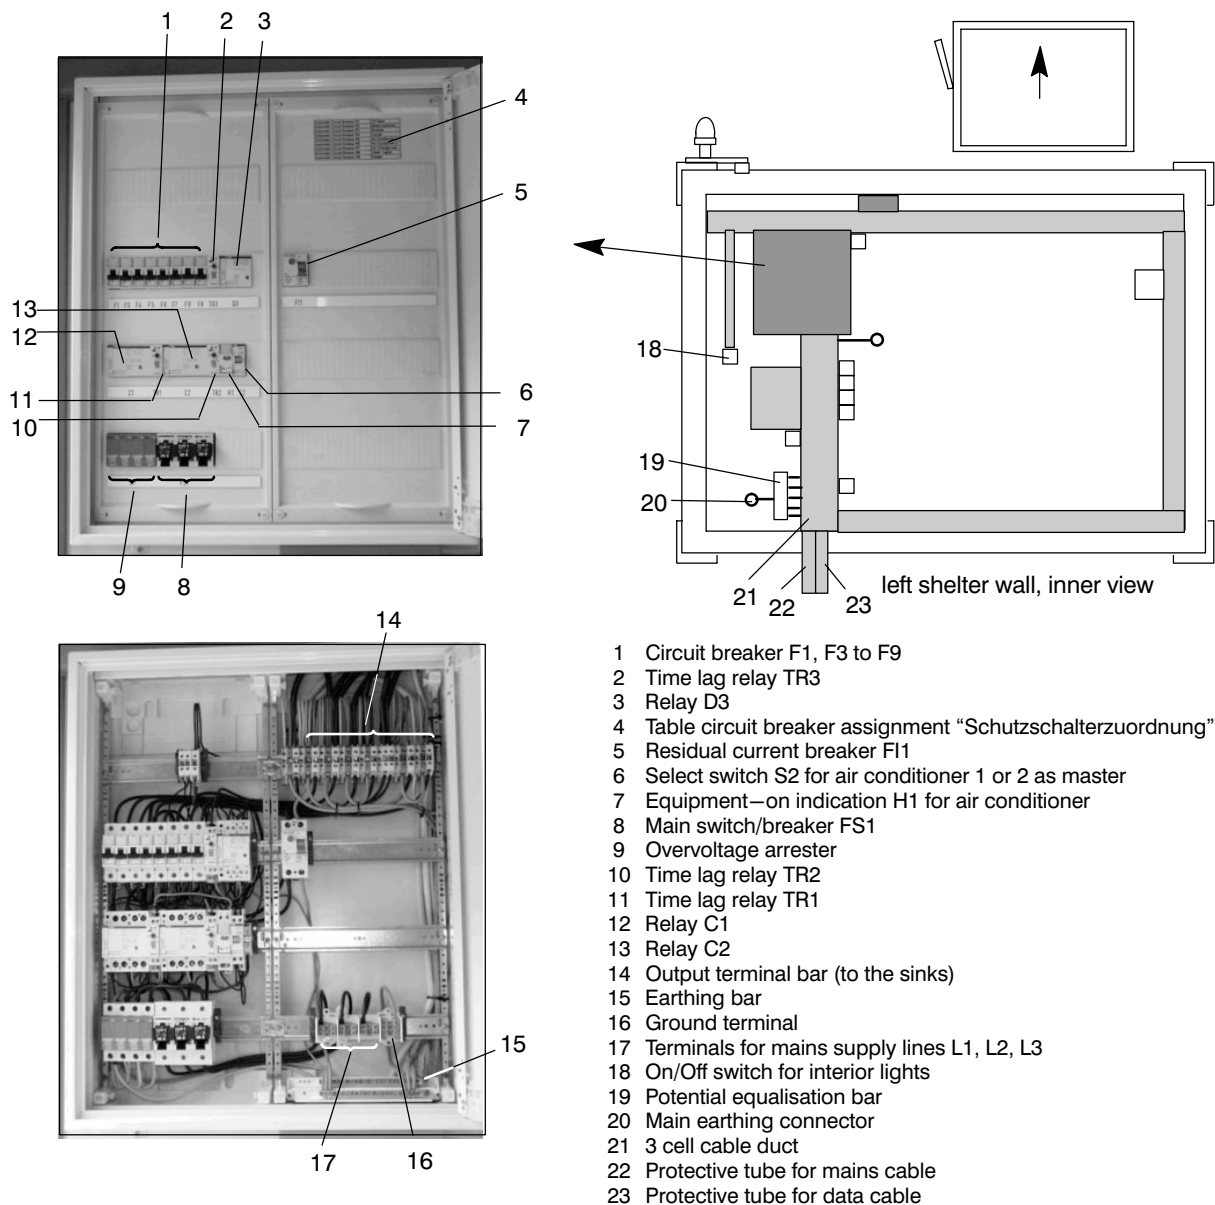

Fig. 2–9 Mains distribution box in the shelter
- Connect mains power supply feeder cable to the mains distribution box in the shelter: Connect lines L1, L2, L3 and N to the correspondent terminals (Fig. 2–9/17,16).